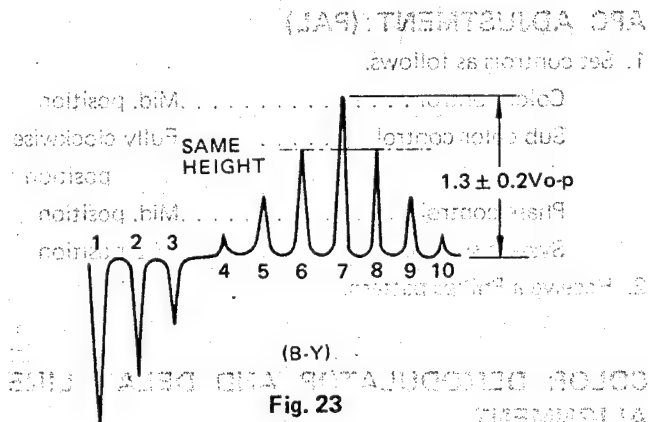

Fig. 23
8. Set the Tint control (R670) to clockwise and adjust Sub Tint control (R616) to obtain the waveform as in fig. 23.